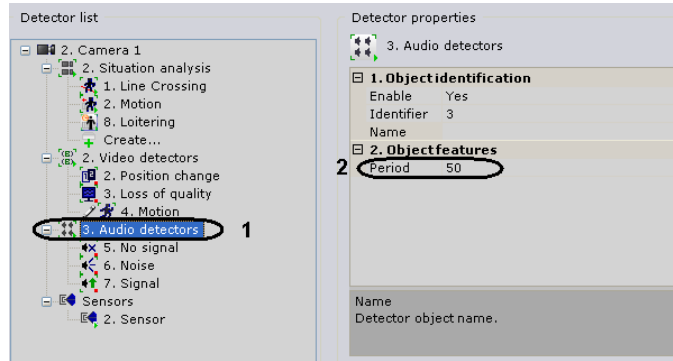

Fig. 6.4—17 Setting the general parameters of audio detectors
1. In the detector list, highlight an **Audio detector** object (Fig. 6.4—17, 1) which offers a means of analyzing the audio signal from a microphone connected to the desired video camera.
2. In the **Period** field (see Fig. 6.4—17, 2), enter the time in milliseconds after which the next section of the audio stream will be processed by the audio detectors. The value should be in the range [0, 65535]. If the value is 0, each section of the audio stream is processed.